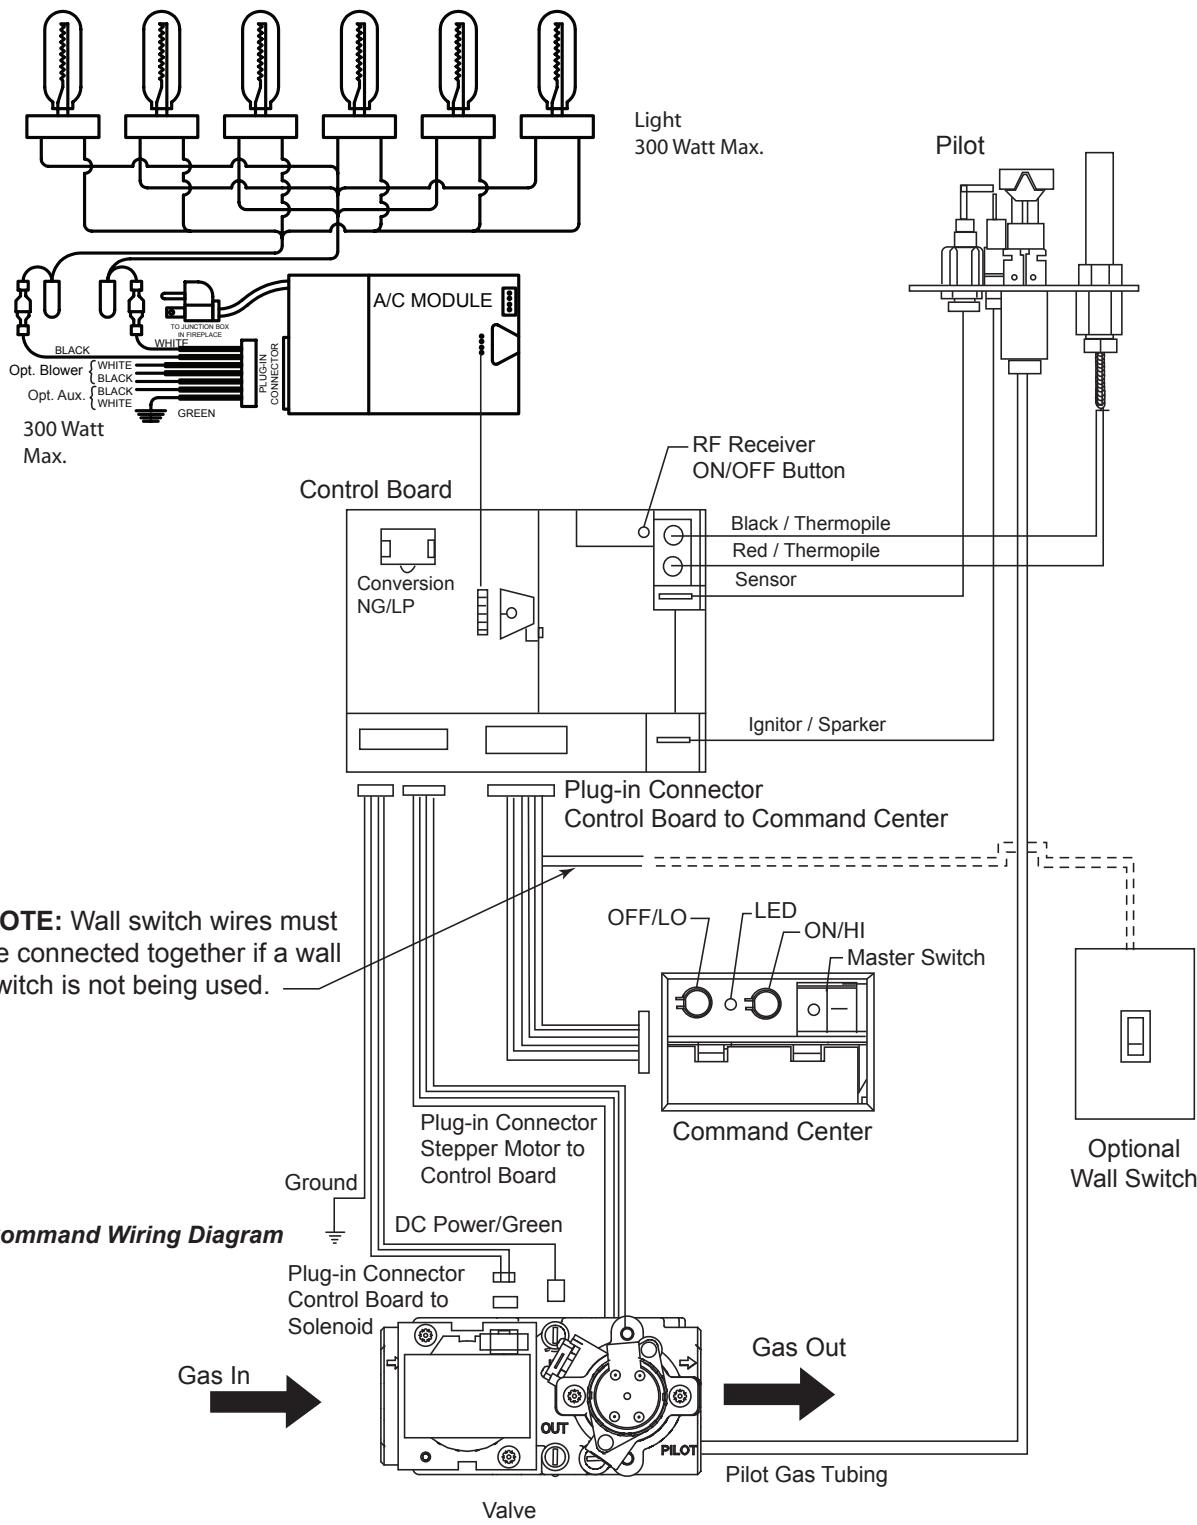

Figure 35 -
The wall switch wire connection is located off the 2 ft. wire harness from the control box to the command center. *Figure 35*. The connection is labeled "Wall Switch". Unplug the male and female connectors and connect the two (2) low voltage wires provided. Run wire to desired location on wall. Up to 50 ft. of 18 ga. wire may be used if necessary. Attach wires to wall switch. Mount the wall switch in to junction box and screw on cover.